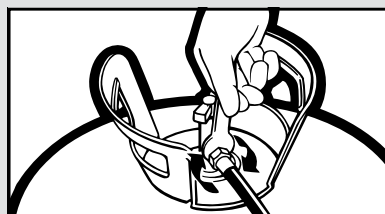

Figure 1
1. Using the wrench from the assembly kit for Insta-Flo™ dispenser/ hose, tighten the hose assemblies for both “A” and “B” valves until both are tight. (See Figure 1). The wrench is intentionally designed to warp or bend if excessive pressure is applied.